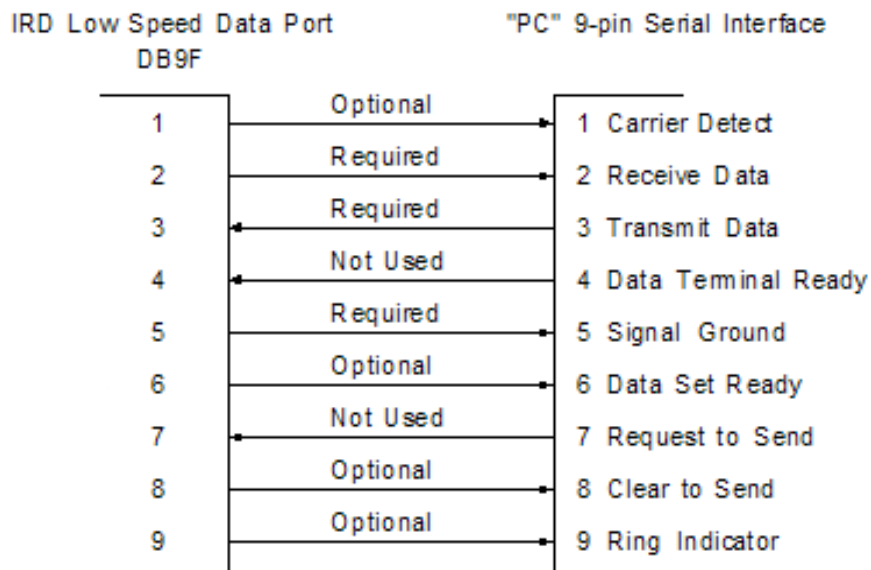

Figure 3-1. Low-Speed Data Port Pin Assignment Diagram
The connector type on D10 and H10 is a standard DB-9F or RJ22 (4 way/4 position jack). The pins for the DB-9F are as shown in Figure 3-1. The STB will use three (3) lines (L2-Rx, L3-Tx and L5-Grnd) for bi-directional full-duplex communications.